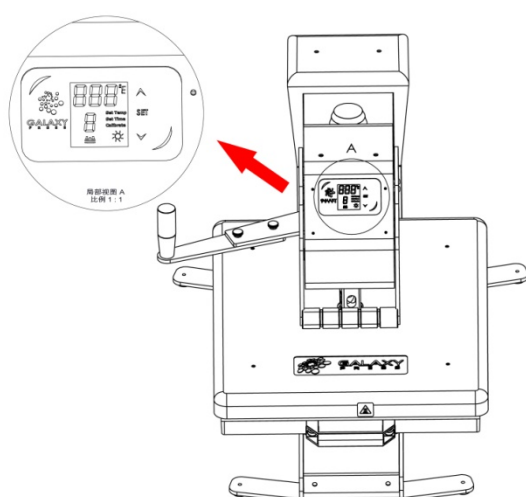

Figure 1
5.1 First, locate the LED Display on the Press.(See figure 1)
A visual Pressure Readout is located on the lower right side of the LCD Display. When the handle is locked into the Print Position, a pressure number will be displayed. Readout will be on a scale of 0 - 9. A 0 Pressure readout would indicate no pressure at all and 9 would indicate very heavy pressure.(See figure 1)